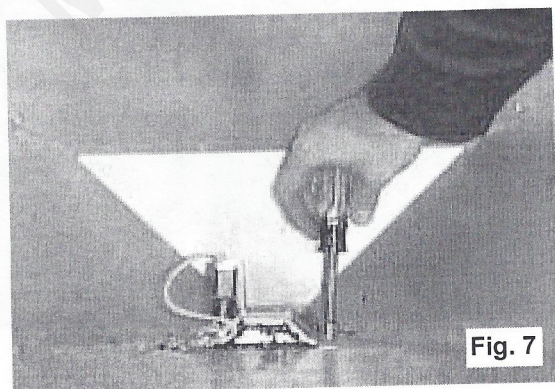

Fig. 7
7. Install new Auger Tube Cover with attached photoeye and connect photoeye wires (see Fig. 7).
8. Press photoeye wires down toward the hopper and bunch together so as not to interfere with the photoeye cover. Double check that the photoeye is looking directly through the filter into feed tube and will have a view of the burn pot (see Fig. 7).